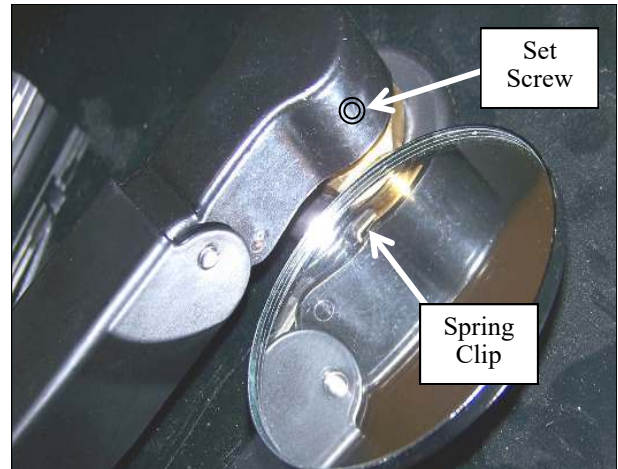

Figure 15.4: Wiper Arm Installation
- 15.4 Make sure wiper arm is fully seated on wiper motor shaft so that the "L" shaped spring clip is locked under the splines as seen in figure 15.4.